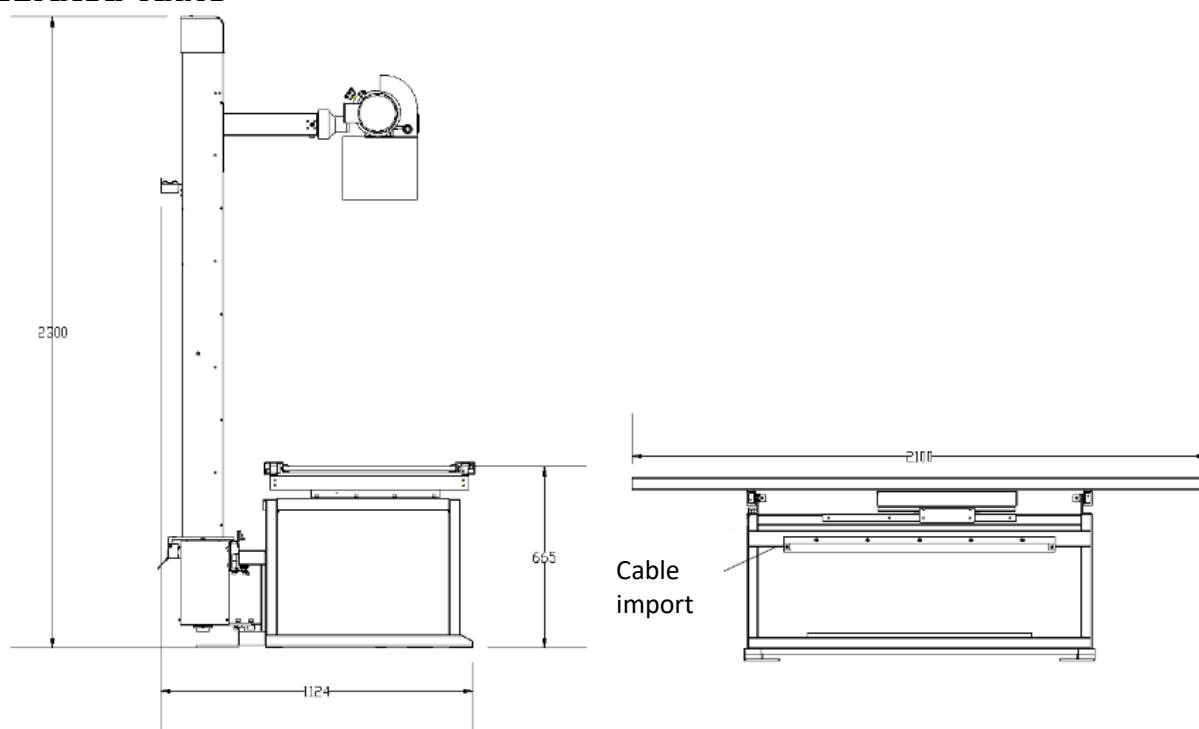
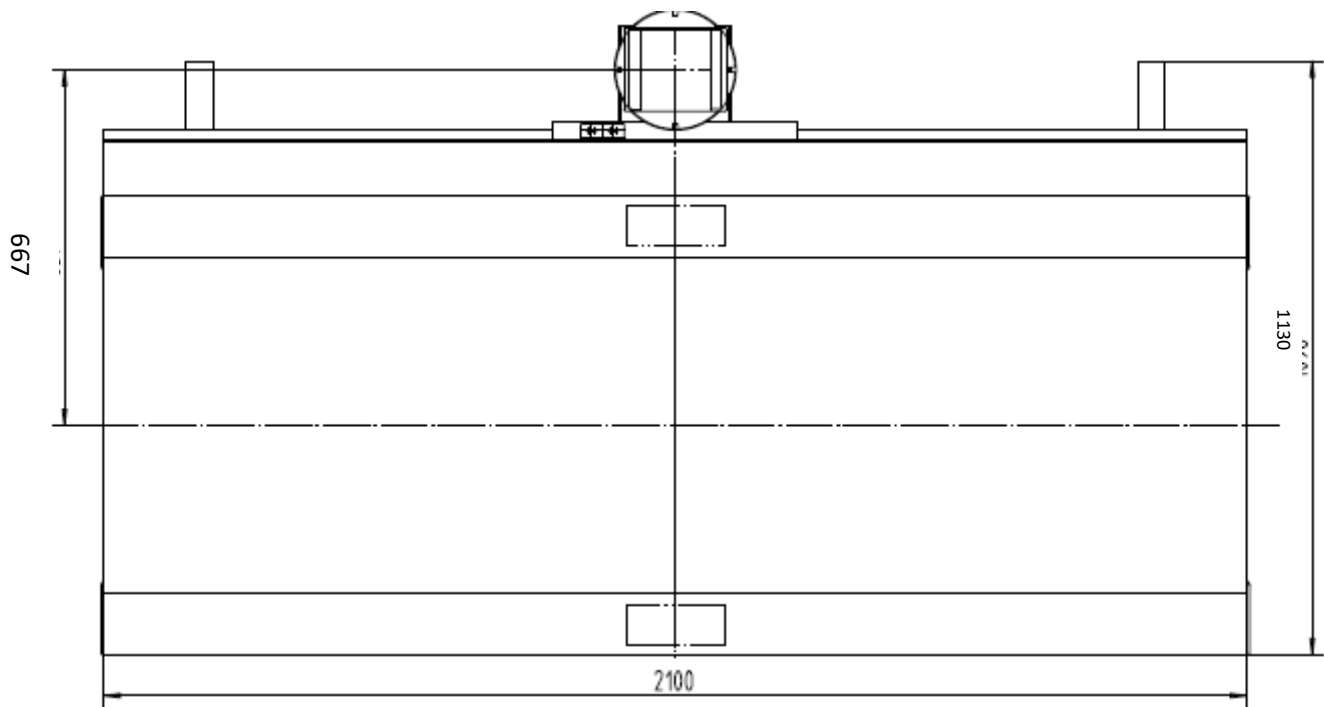

Figure 5-4 Integrated Table Side View (Basic)
Figure 5-9 Integrated Table Top View (Standard)
- Integrated Table - Figure 5-4 through Figure 5-9.